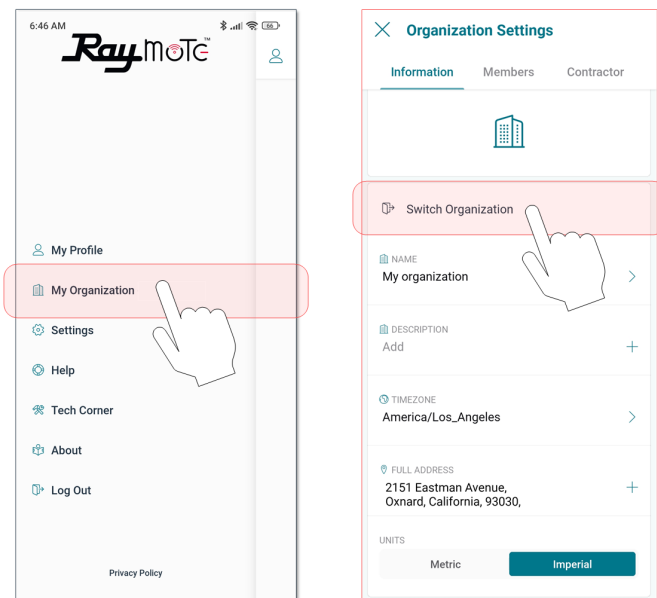

Figure 77. Switch Organization
2. On the main menu, click on the "Organization" option. See **Figure 77**.